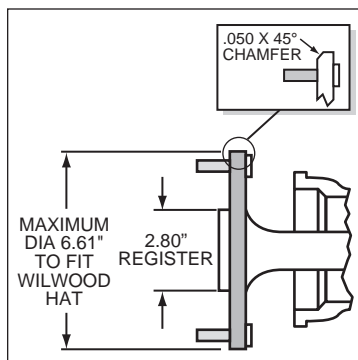

Figure 3. Axle Flange Maximum Dimension
- Axle center register diameter is 2.80", Figure 3. This kit uses Wilwood's removable center register adapters. Rotors can either be centered on the axle register, i.e. *register-centric* or centered on the wheel studs, i.e. *stud-centric*. Due to variations in wheel stud final diameters, *register-centric* centering can be a more accurate method of centering the rotor to the axle. Wilwood offers various diameter adapters for purchase in addition to the ones supplied in this kit, see Table 1.
- Maximum axle flange diameter must be no larger than 6.61" w/.050" x 45° chamfer (see Figure 3).
- Slide the bracket kit assembly (1) onto the housing flange and then insert the axle assembly through the center hole of the bracket kit assembly (1). Secure using the stock Original Equipment Manufacturer (OEM) bolts and nuts. Stock OEM hex nuts that retain the bracket kit assembly (1) should be on the wheel side of the bracket. Apply red *Loctite*® 271 to the stock OEM bolt threads and torque to OEM specifications. Make sure the bracket kit assembly (1) brake pads are FACING OUTWARD TOWARDS THE WHEEL.
- With the larger I.D. side of the rotor (3) facing away from the hat (2), bolt rotor (3) to hat (2) through the backside of the rotor using washers (4) and bolts (5). Using an alternating sequence, apply red *Loctite*® 271 to the threads and torque bolts to 140 **in-lb**. For an added measure of security, the bolts may be safety wired using standard 0.032 inch diameter stainless steel safety wire as shown in Figure 3. Please refer to Wilwood's data sheet DS-386 (available at [www.wilwood.com/Pdf/DataSheets/ds386.pdf](http://www.wilwood.com/Pdf/DataSheets/ds386.pdf)) for complete safety wire installation instructions.